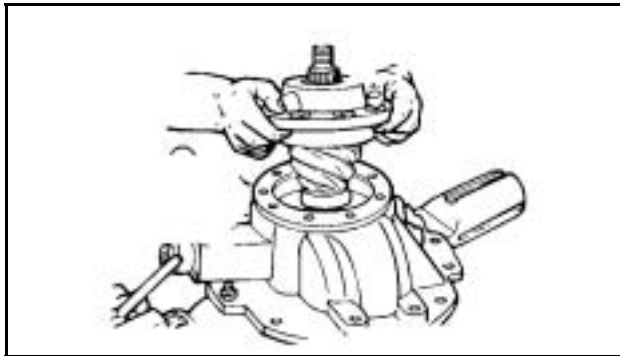

Figure 66
- Temporarily install the drive pinion and cage assembly in the carrier. Do not install shims under the bearing cage. **Figure 66.**